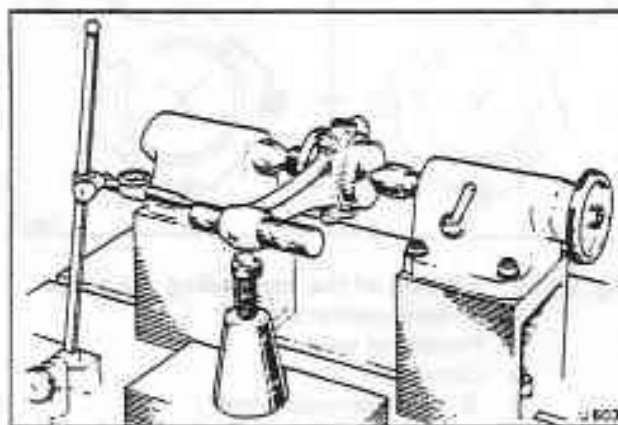

Fig. E6-11 Checking the connecting rod for twist
3. Mount the connecting rod on an inspection surface table as shown in figure E6-11.